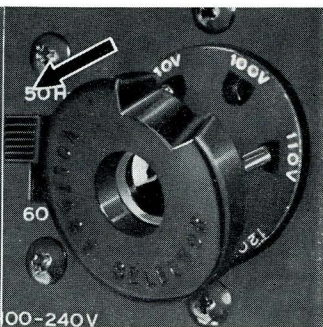

Fig. 6
- (2) The VOLTAGE SELECTOR as shown in Figs. 6, 7, and 8, is a rotatable plug-in type offering 6 selections (100/110/120/200/220/240)
- (3) Change the fuse according to voltage.